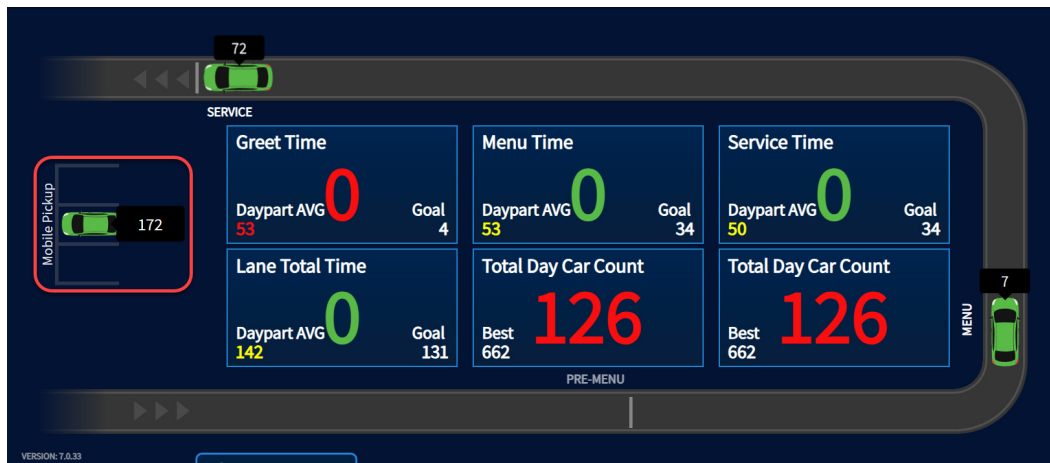
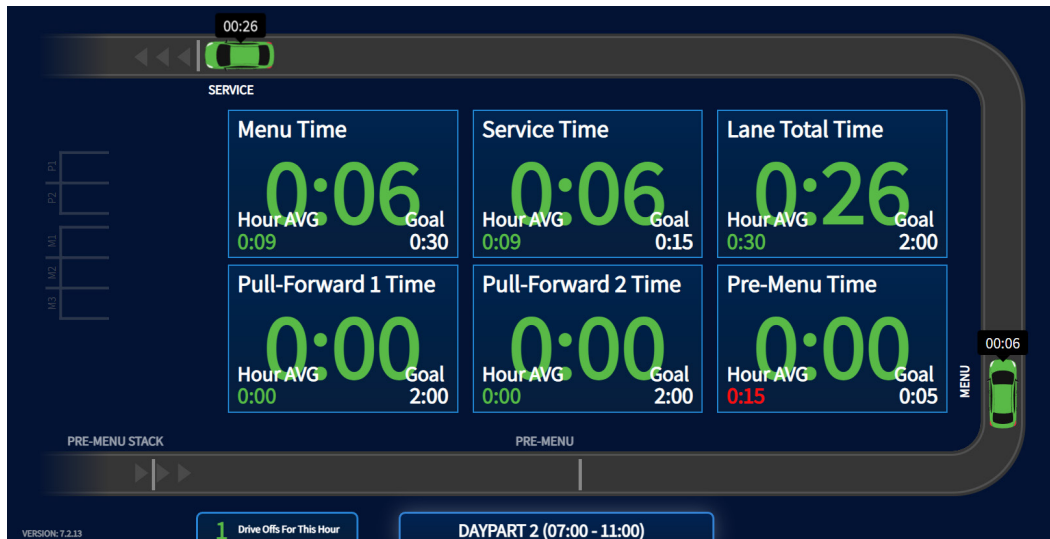

Fig. 36
Fig. 37
4. Fig. 36 shows where the Mobile spaces are displayed on the dashboard. The camera view in Fig. 25 shows a vehicle in Mobile space 2, and it is reflected here on the dashboard. If Pull-Forward spaces are used, they will appear in the same area on the dashboard, see Fig. 37.